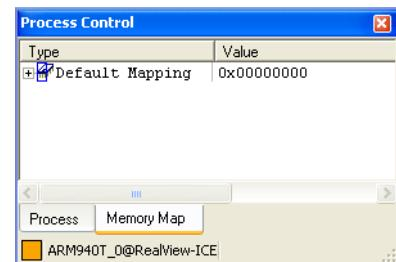

Figure 9-7 Default memory map
4. Right-click in the **Memory Map** tab, shown in Figure 9-7, to display the context menu.